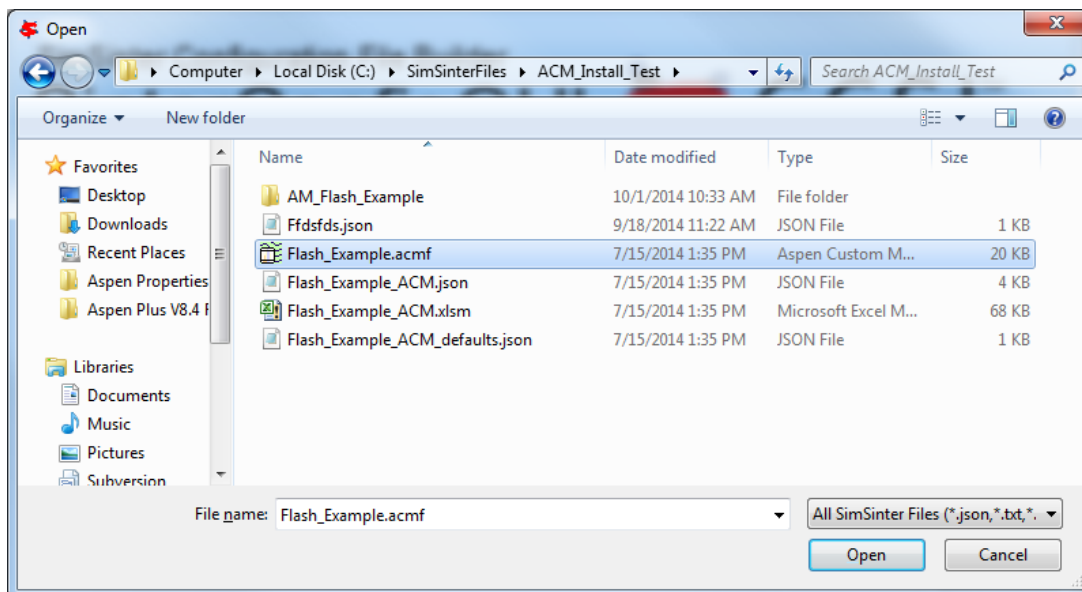

Figure 4: Selecting the simulation file to open
4. Click browse and select your file. I will be opening the ACM demonstration file included with SimSinter in C:\SimSinterFiles\ACM\_Install\_Test, as in Figure 4.